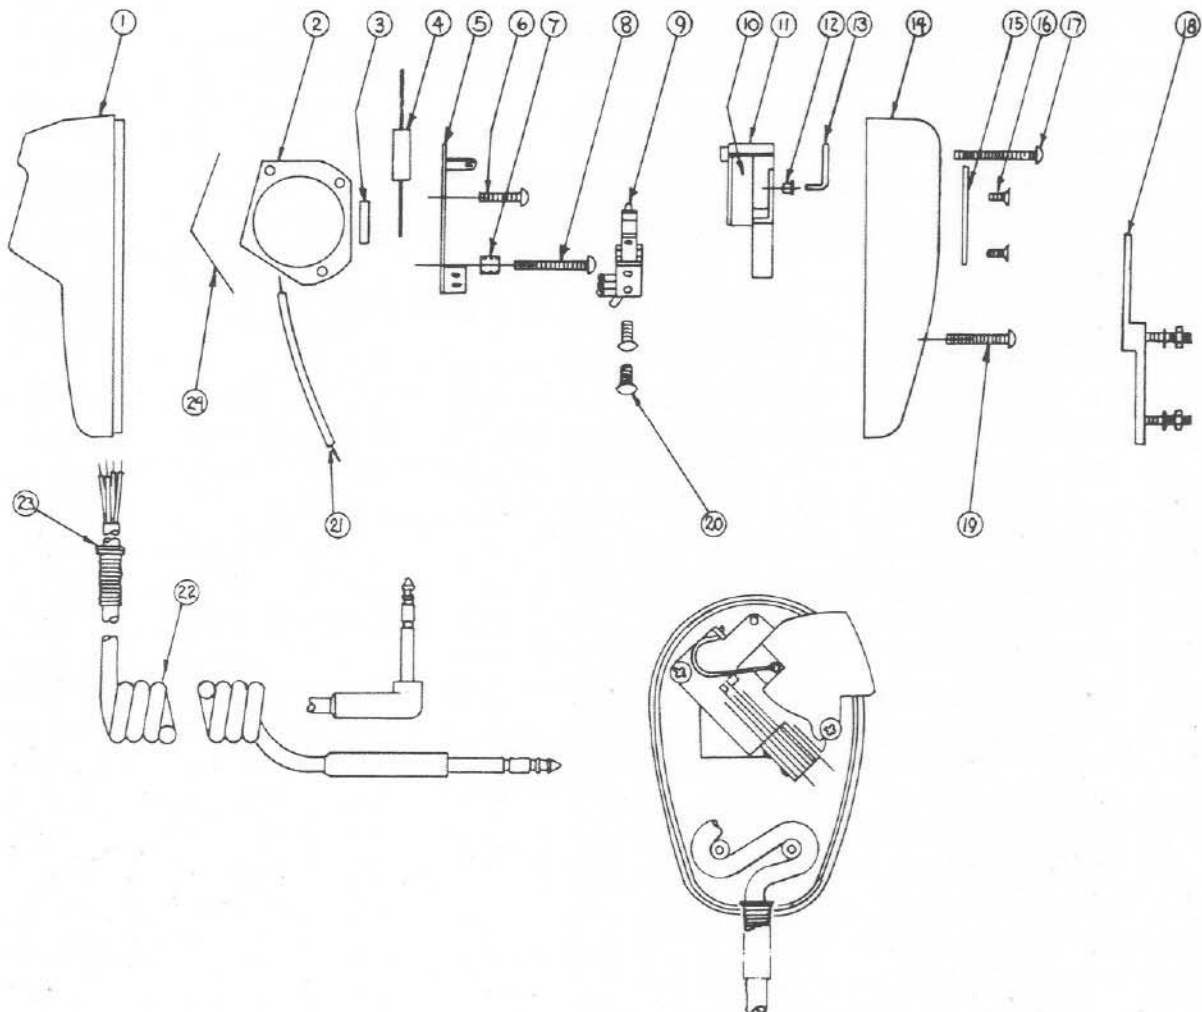

FIGURE 1 - Assembly Drawing
2. **Disassembly.** (See Figure 1)
- b. Do not disassemble the head and capacitor sub-assembly (2) to (6) unless capacitor or head must be replaced. If this is necessary proceed as indicated in steps c. and d.
- c. Remove head by first removing screws (Items 6 & 8) and switch bracket (Item 5). See Figure 1.
- e. Do not unsolder leads to switch unless it is necessary to replace switch assembly or cable (10).